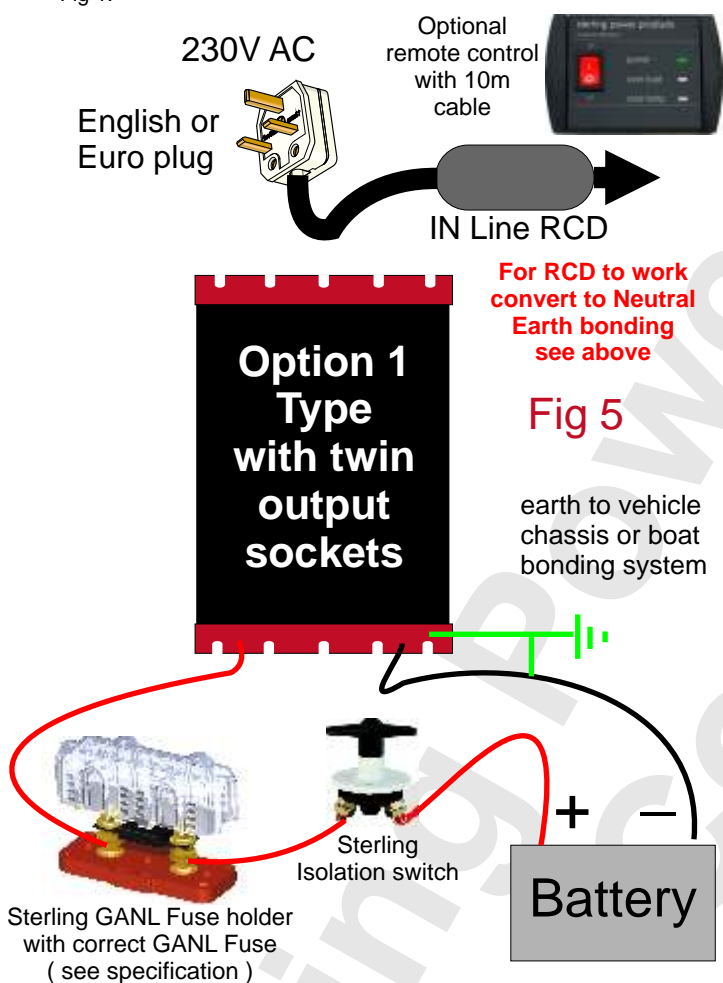

Fig 5
- 6) Secure the unit in position, fit DC fuse and isolation switch as required in position as per Fig 5. fuse size table on page 4
- 5) Secure the unit in position, fit fuse and isolation switch as required in position, as per Fig 5.